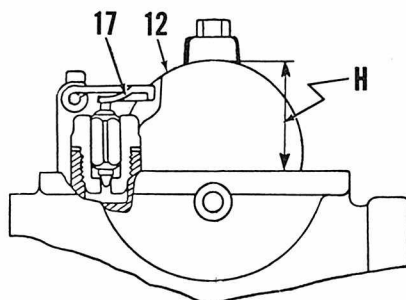

Fig. S5-2—Float level (H) is adjusted by bending tang (17).
Turning the needle counter-clockwise leans the idle mixture. Idle speed is changed by turning adjusters (2). Make sure that throttle slides (7) both stop at same time when they reach idle speed stop. Carburetors must be synchronized to open exactly the same by turning cable guides (1) on top of carburetors. Throttle cables should have approximately ½ inch play at the carburetors. Cable play must be the same for both carburetors. Float level (H—Fig. S5-2) should be 25MM (0.985 inch) and is adjusted